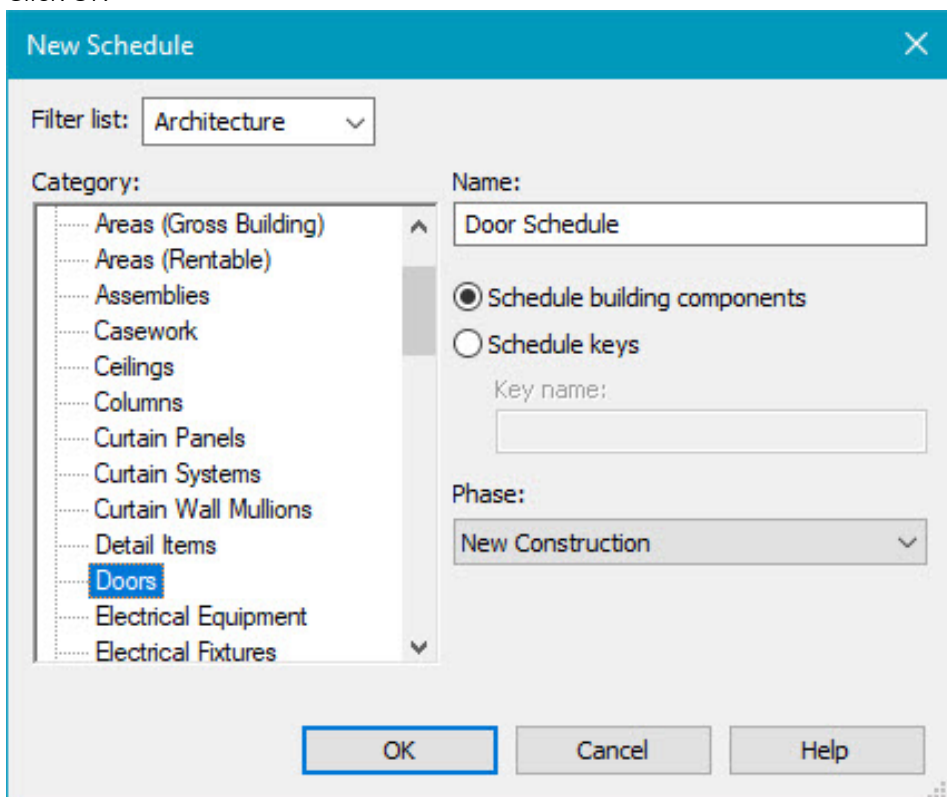

Figure 12.1 New Schedule window with Door category chosen
4. In the New Schedule window change the following parameters, see Figure 12.1